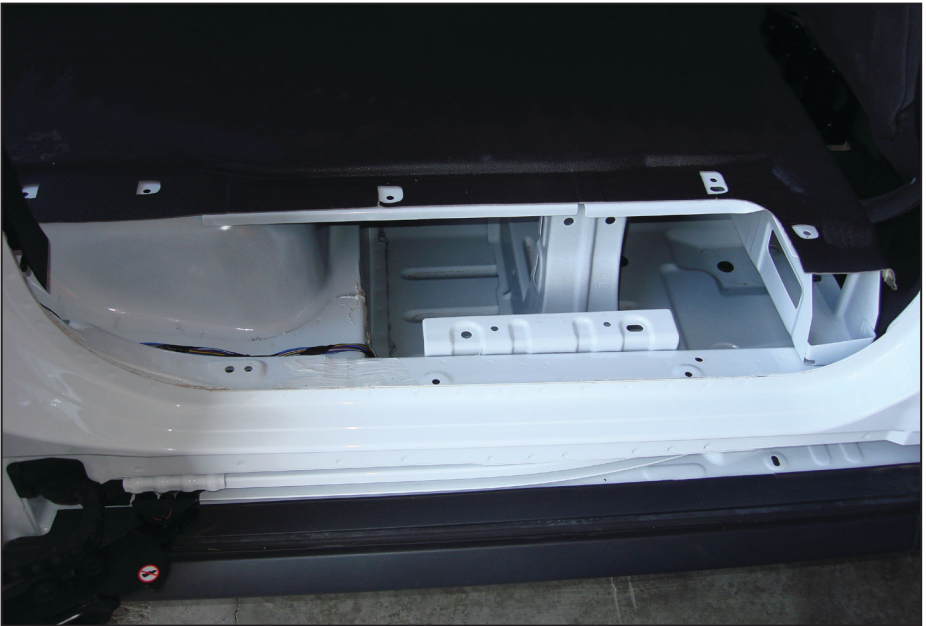

Figure 19 — Access the sub floor
- Remove the plastic step to provide access to the sub floor (Figure 19).